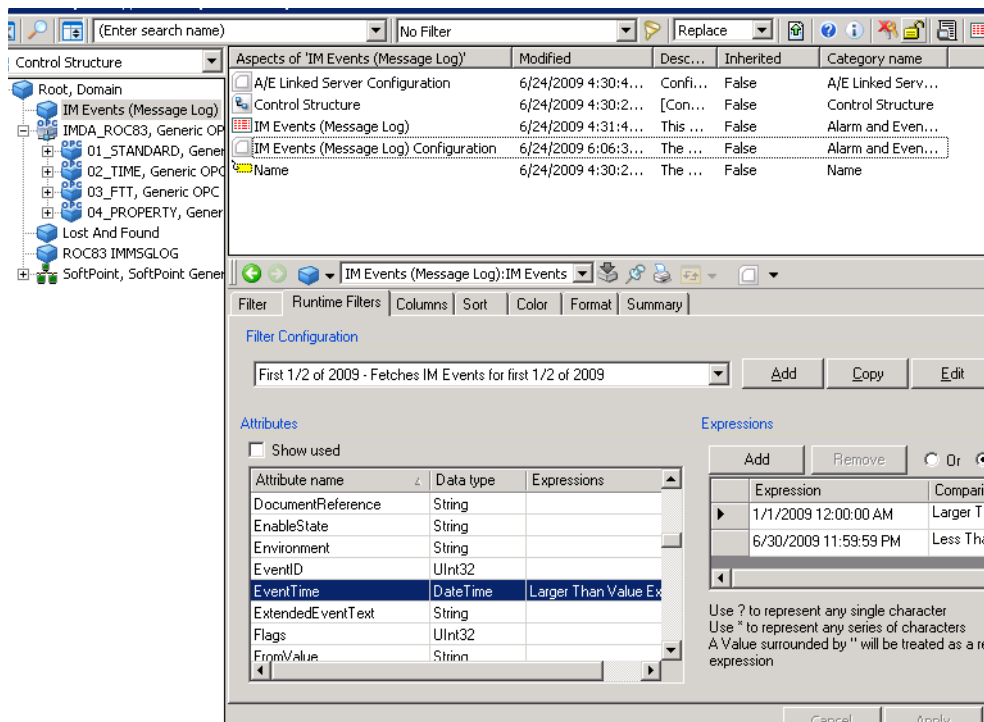

Figure 6. Accessing the Runtime Filters Tab
1. Navigate to the **Runtime Filters** tab of the Alarm and Event List Configuration aspect (named IM Events (Message Log) Configuration in the example shown in Figure 6) in the Preview Area of the Plant Explorer Workplace. The example shown in Figure 6 will fetch IM Events for the first half of 2009.